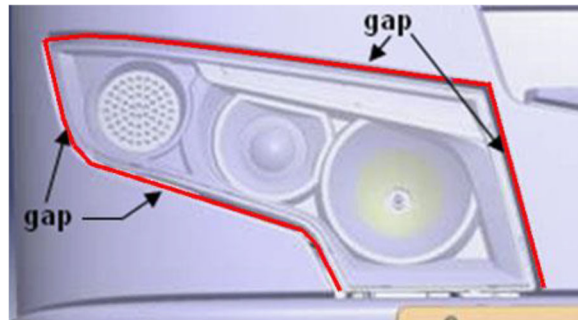

FIGURE 17
5. The gap shown in red on **Figure 17** should be  $5 \pm 2$  mm.